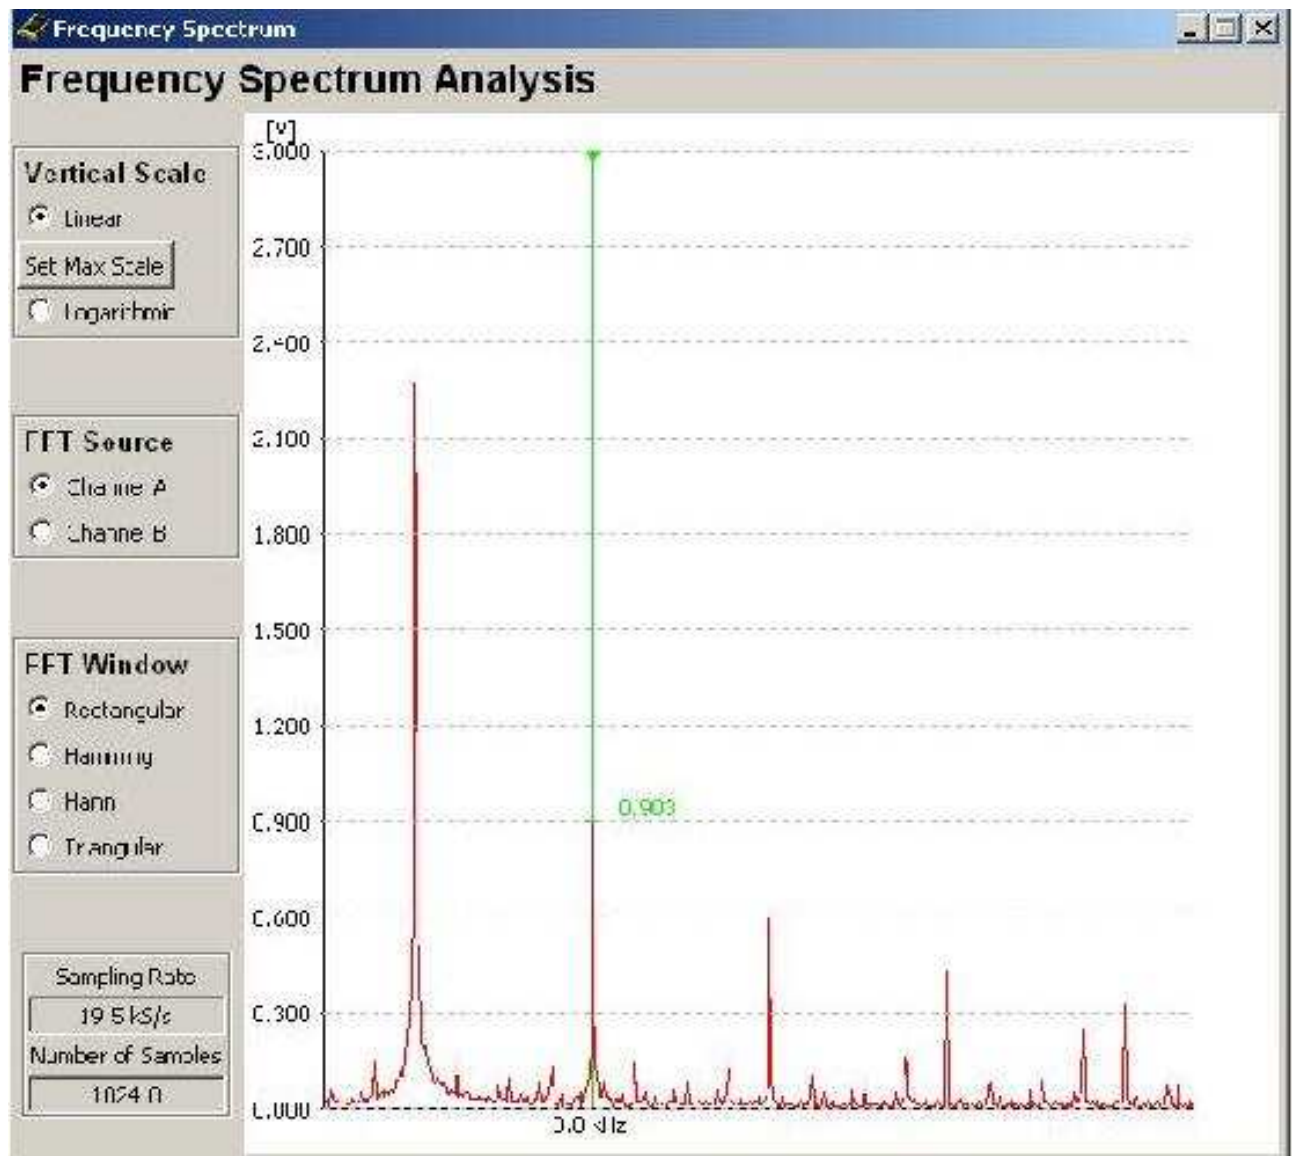

Figure 11: Square Wave Spectrum
Clicking on Tools -> **Spectrum Analysis** brings up the spectrum analysis display of figure 11. The displayed spectrum in this image is a 10kHz square wave.
- The **Effective Sampling Rate** is shown in a readout at the bottom right corner of the spectrum display. This is important: the sampling rate must be at least twice the frequencies being analysed to avoid aliasing. Put another way, there must not be frequency components above the Nyquist rate, which is half the sampling rate. In the example shown in figure 11, the sample rate is 20kHz. The frequency components range from 1kHz to 9kHz, below the Nyquist rate of 10kHz².
frequency readout will be only approximate. For example, in figure 11, the square wave frequency (generated by a Syscomp WGM-101 waveform generator) is at a frequency 1kHz to within a fraction of a Hz. The 9th harmonic is at 9kHz. The spectrum display readout puts the 9th harmonic at 9.0234 Hz, which is approximately correct.
Determine the frequency resolution (bin spacing) for the case of the display of figure 11.